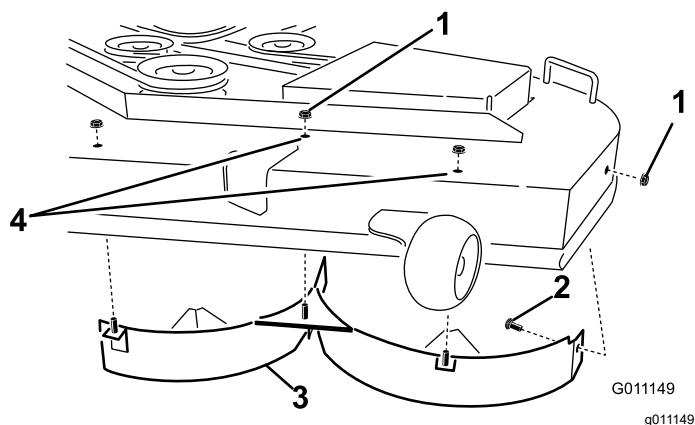

Figure 17
4. Remove the 3 locknuts (5/16 inch) secured to the welded posts of the left baffle on the top of the mower deck at the center, left of center, and left positions (Figure 17).
5. Remove the carriage bolt and locknut on the side wall of the mower deck securing the left baffle to the deck (Figure 17).
6. Remove the left baffle from the mower deck (Figure 17).
7. Locate the 2 bolts in loose parts and use the existing locknuts and install these fasteners into the holes shown in Figure 17 on the mower deck to prevent flying debris.